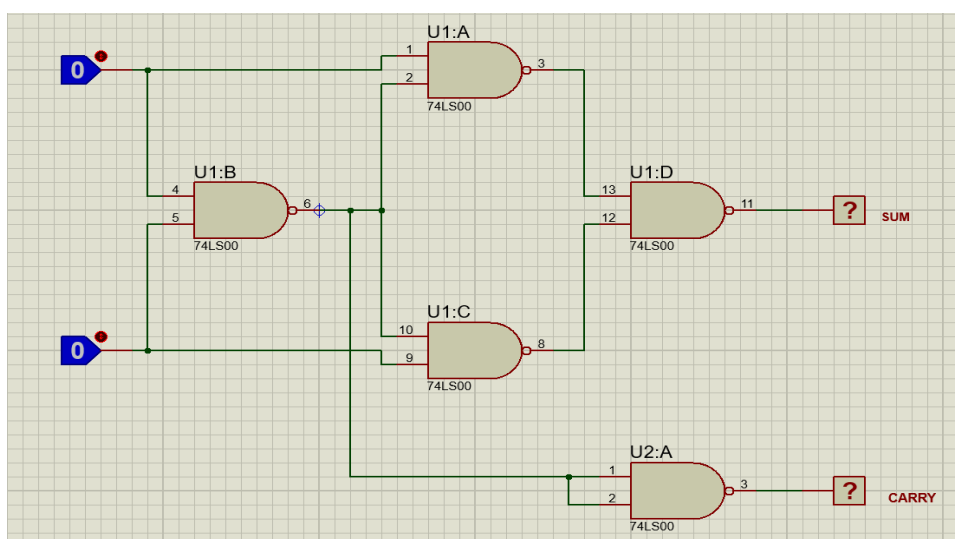

Figure 5: Half Adder using NAND by Proteus
- Connect inputs (A and B) to the logic-toggle, as shown in Figure 5.
- Connect the output (SUM and CARRY) to the logic-prob, as shown in Figure 5.